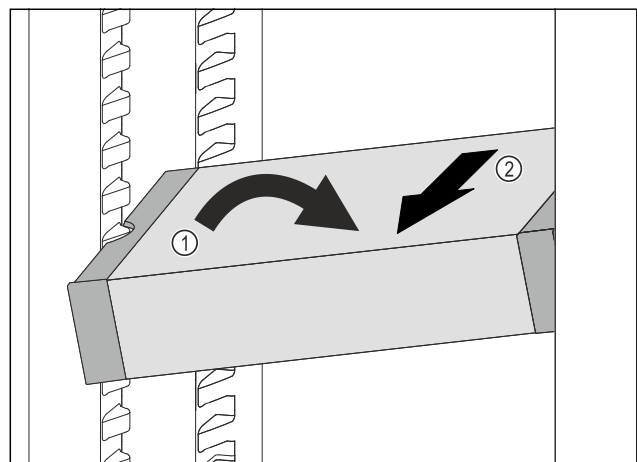

Fig. 186
- ▶ Set VarioSafe in refrigerator compartment at an angle. Fig. 186 (1)
- ▶ Take VarioSafe out to the front. Fig. 186 (2)